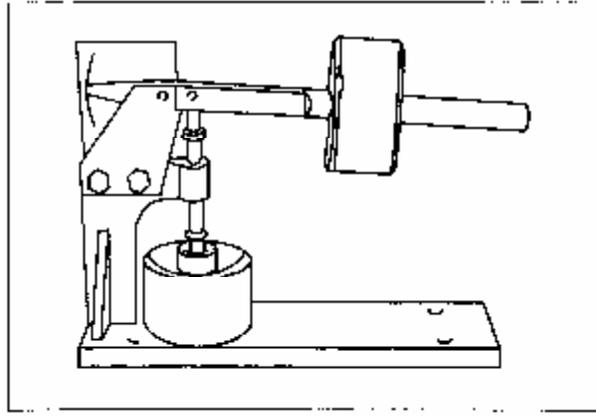

Figure 3-44 Valve Tappet Leak down test
**3.4.11** Leak down test for valve tappet: if possible, use a leak down tester to check tappet leak down(Figure 3-44). The test oil is industrial alcohol or special test oil. Apply a pressure (196N) on the plunger, and measure the time required for another 1mm plunger leak down after the plunger has dropped by 2mm (the value should be 7~50s).